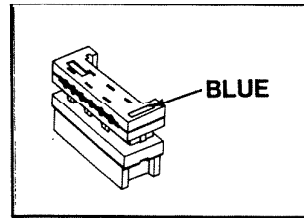

FIGURE 2
NOTE: Two (2) wiring connectors (see Figure 2) are packed with each remote speaker. One of these connectors will be used at the master station for connection to the terminal board. The other one will be used at the remote speaker for connection of that speaker. (See the remote speaker installation instructions for speaker connection.)